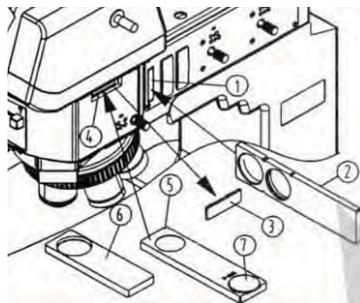

Fig.27
(1) Remove the dust cover ① from the socket of the reflection illuminator, and then insert the polarizer insert plate ② into the socket of the reflection illuminator in the direction shown in the figure, and then move the polarizer into the optical path after two clicks. (See Fig.27)